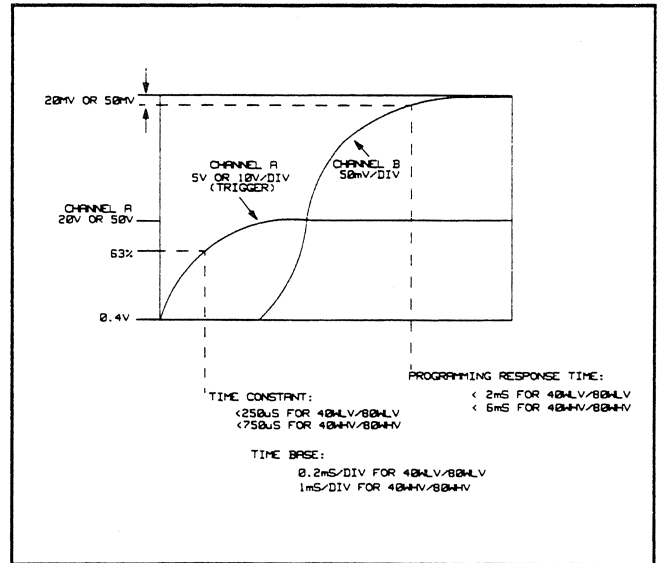

Figure 3-7. CV Up Programming Speed Test Waveforms
- i. On Channel A, observe the output voltage transition from the scope's bottom horizontal line to the High Range Full Scale Voltage. Look for a smooth exponential waveform with no "kinks" or aberrations. Perform a time constant check by insuring that the output voltage rises to about 63% of the High Range Full Scale Voltage in less than 250 μ sec. (40WLV/80WLV outputs) or 750 μ s. (40WHV/80WHV outputs). Refer to the Channel A waveform shown in Figure 3-7.